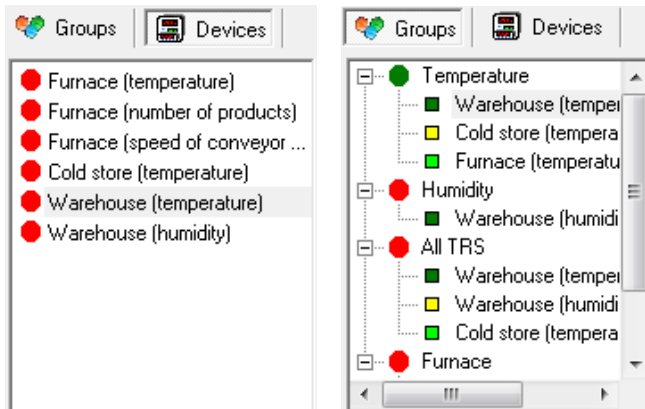

Figure 3.12. Single devices and Group of devices selection tabs.
- click appropriate tab **Groups** or **Devices** (Figure 3.12),